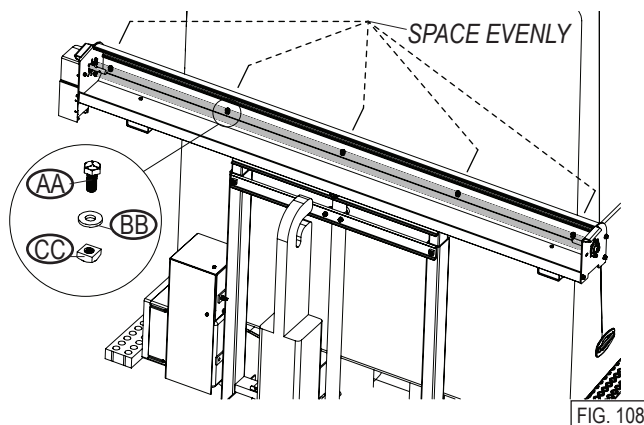

FIG. 108
- On the tarp axle, loosen the pre-installed hardware and space the **bolts (AA)**, **washers (BB)** and **nuts (CC)** evenly along the axle slot. See Figure 108.